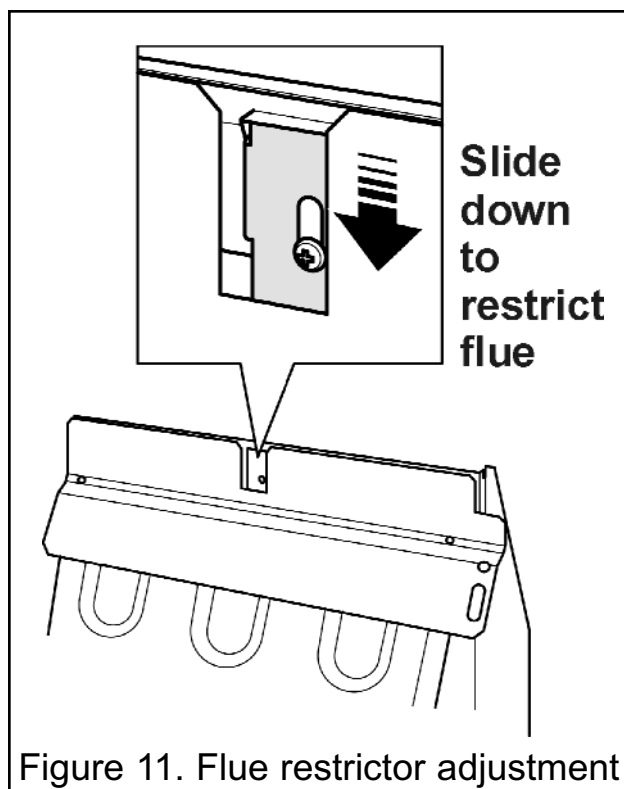

Figure 11. Flue restrictor adjustment
1. Loosen the screw situated behind the cut-out in the black upper heat shield. Do not fully remove the screw (See figure 11).